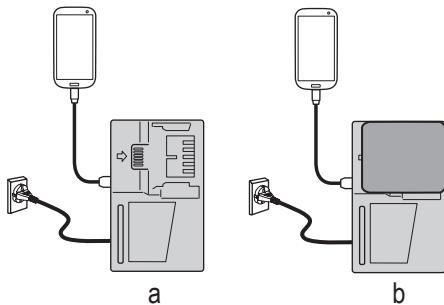

Fig. 22
- Charging a USB device from a electrical outlet. (**Fig. 22-a**)
- Charging a USB device and battery from an electrical outlet. (**Fig. 22-b**)